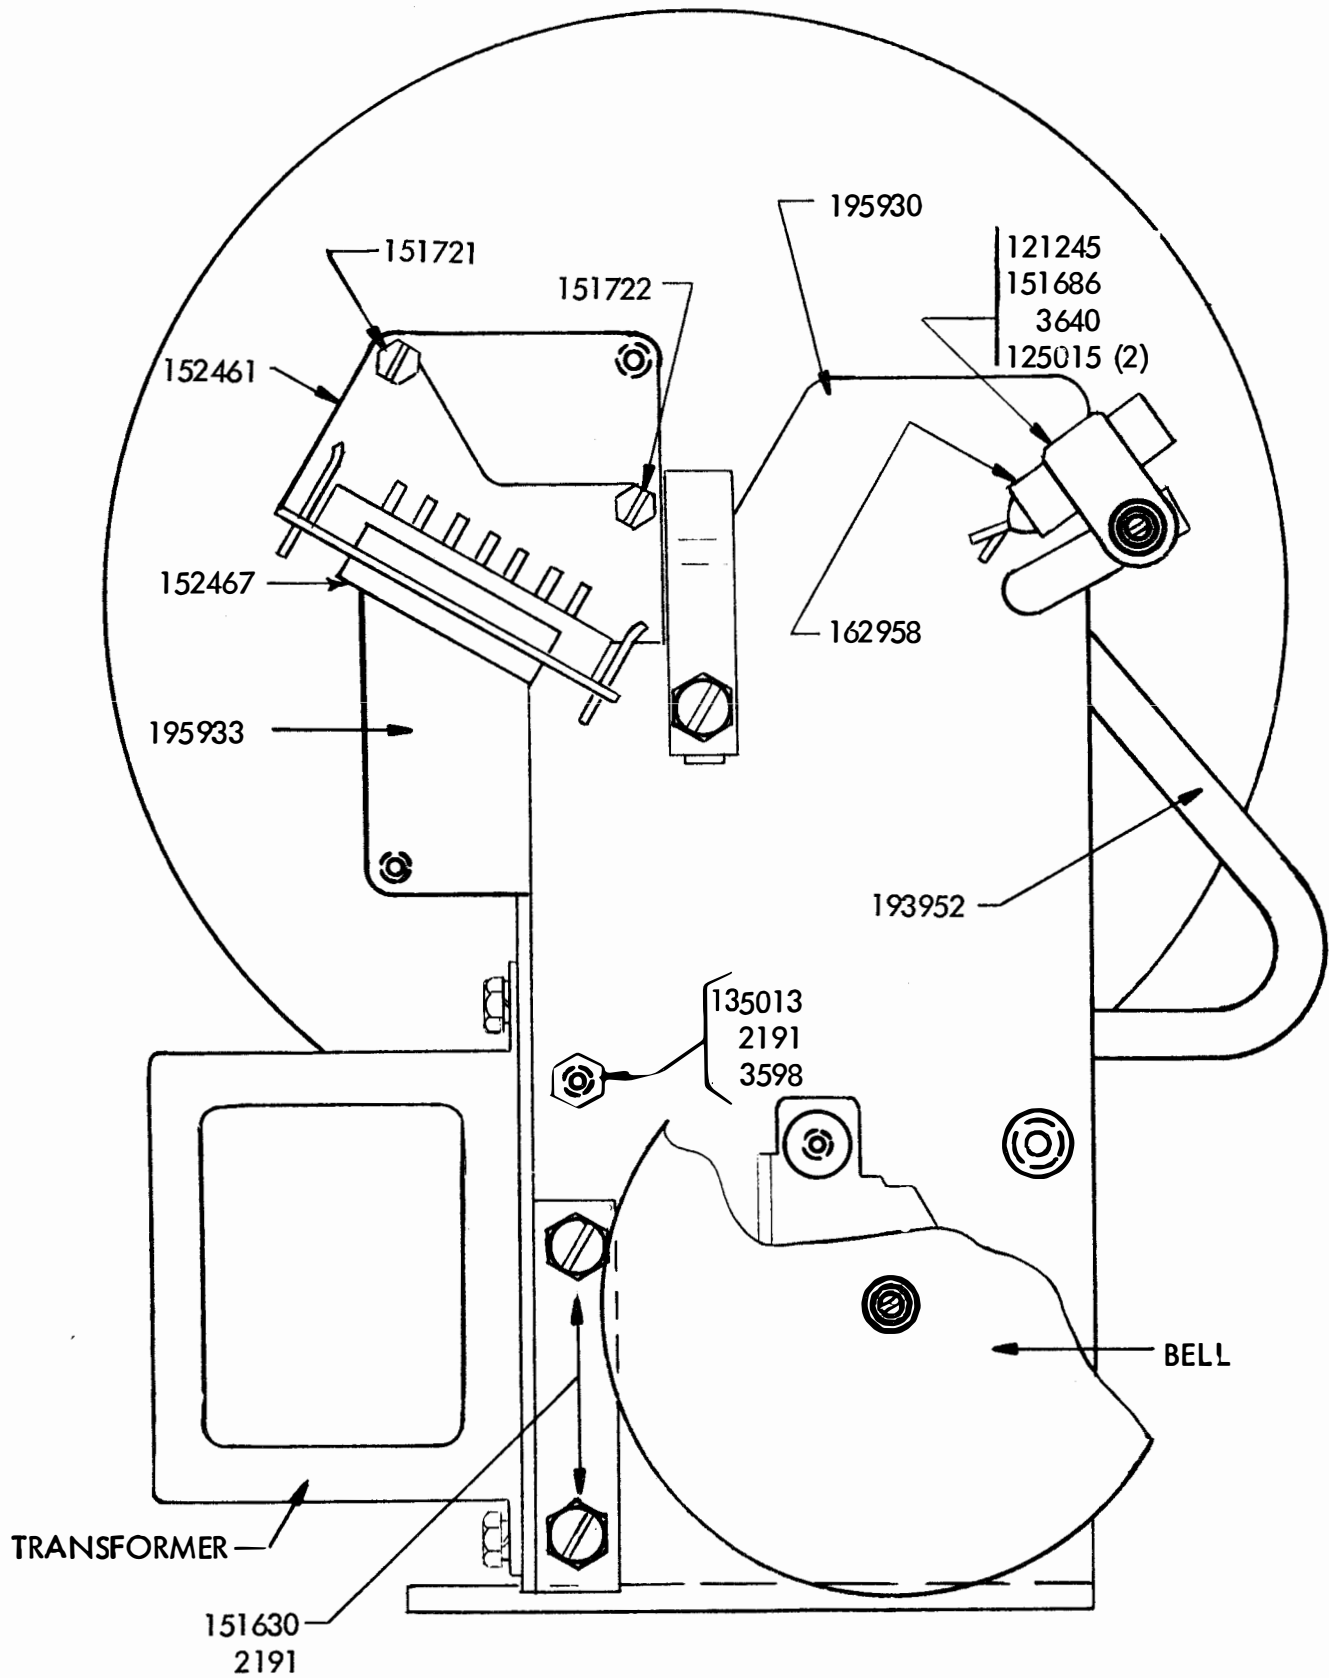

FIGURE 1. 195921 & 195922 PAPER WINDER ASSEMBLY
- (2) Remount the following parts from the 179164 mounting bracket on the 195930 winder bracket. See Figures 1 and 4.
If the 179164 mounting bracket contains the Bell Assembly and transformer, transfer these parts to the paper winder bracket as shown in Figure 1.